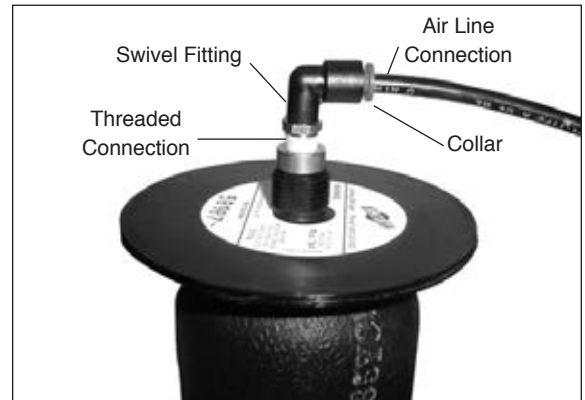

Figure 29
- a. Check the air line connection by deflating the spring and removing the line by pulling the collar against the fitting and pulling firmly on the air line. Trim 1" off the end of the air line. Be sure the cut is clean and square. Reinsert the air line into the push-to-connect fitting. See Figure 29.
- b. Check the threaded connection by tightening the swivel fitting another $\frac{1}{2}$ turn. If it still leaks, deflate the air spring, remove the fitting, and re-coat the threads with thread sealant. Reinstall by hand tightening as much as possible, then use a wrench for an additional two turns. See Figure 29.